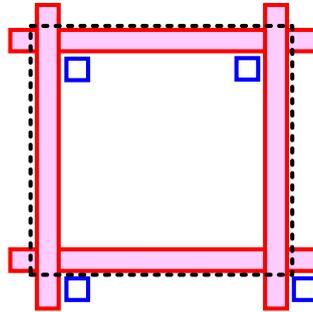
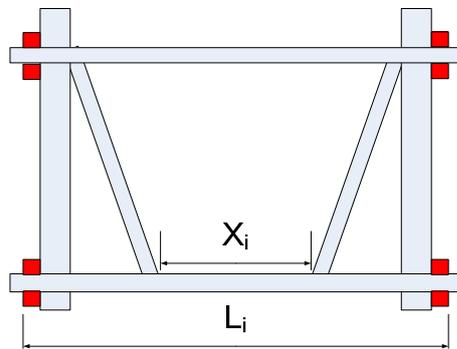

Figure 5. The floor area is the area enclosed by the black dashed lines.
Figure 7
- 4.5.1 The floor area is defined as the area enclosed by the edge beams. The floor area is measured along the outer edges of the edge beams shown as the black dashed lines in Figure 5. The two ends of the edge beams should be connected to the columns, which are fixed on the base board and are continuous from the ground to the floor. The beams and columns should be made of complete wooden sticks. The minimum floor area for each of the 2nd, 3rd and 4th floors is 210 cm². The minimum floor area for each of the other floors is 150 cm². The total floor area, excluding the ground floor, of the model must be between 930 cm² and 2000 cm². There is no mass block placed on the 1st floor, i.e. the ground floor. The 1st floor area is also not counted in.
4.7.1 There are openings for installing doors and windows on every floor of a real building. Therefore, every floor of the model, must keep some exterior clearance X_i , in which there is no material/member installed along the perimeter L_i of the floor (Figure 7). The ratio of ΣX_i to ΣL_i for each floor should be no less than a certain value (to be specified later). It should be noted that both of the upward and downward projected lengths of bracings and inclined columns should be considered.
4.7.2 ΣL_i (Figures 7 and 8) is the sum of the floor perimeter defining the floor area shown as Figure 5. ΣX_i is the sum of the parts of the floor perimeter, which are not occupied by the projection of walls, bracings and inclined columns.